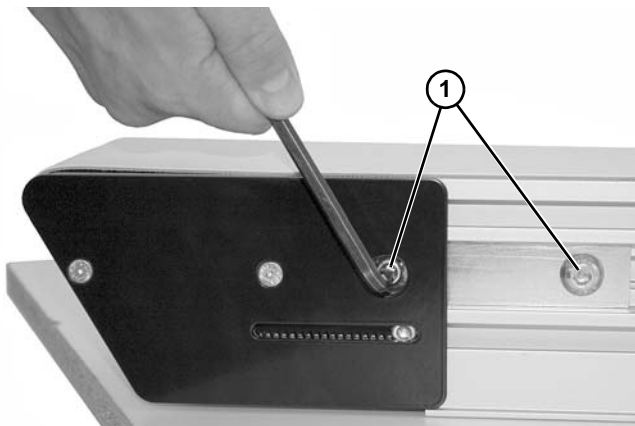

Figure 89
2. Remove transfer tail from conveyor frame by loosening bolts (**Figure 89, item 1**) on both sides of conveyor.